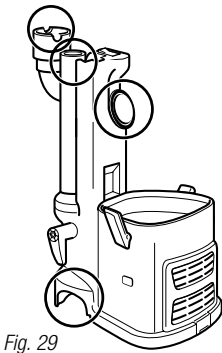

Fig. 29
- Remove the dust cup and extension wand and separate the portable *Lift-Away*® canister from the motorized floor brush. Look in all 4 openings for any blockages. **(Fig. 29)**